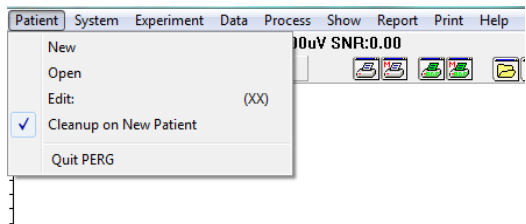

Fig. 2. - PERG Patient menu.
1. Open the Patient Demographics window by clicking on **[Patient > New]** from the PERG main menu (See Fig. 2 on page 10), or one of the patient buttons from the tool bar, then click the **[Backup]** button on the right hand side of that window.